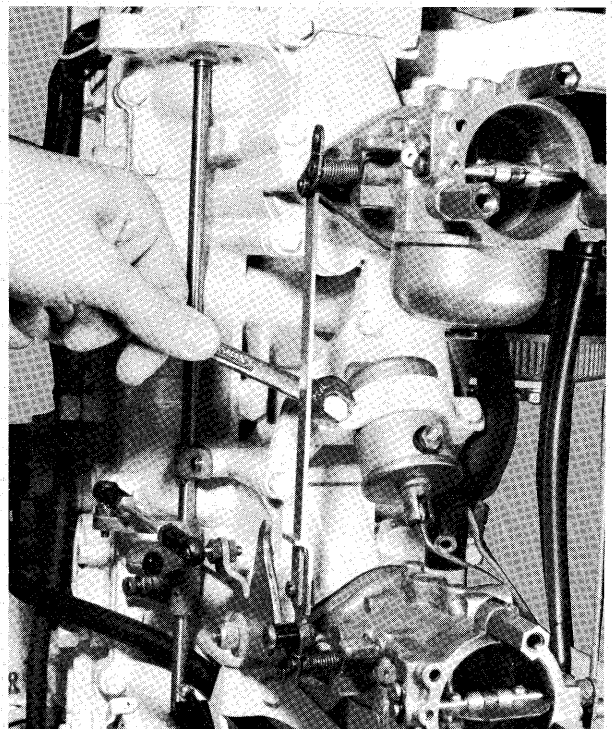

Figure 3 - Removing Choke Solenoid
- C. Remove two (2) hex head screws and clamp securing choke solenoid to bracket. Remove choke solenoid from engine by pulling same from choke solenoid plunger. See figure 3.